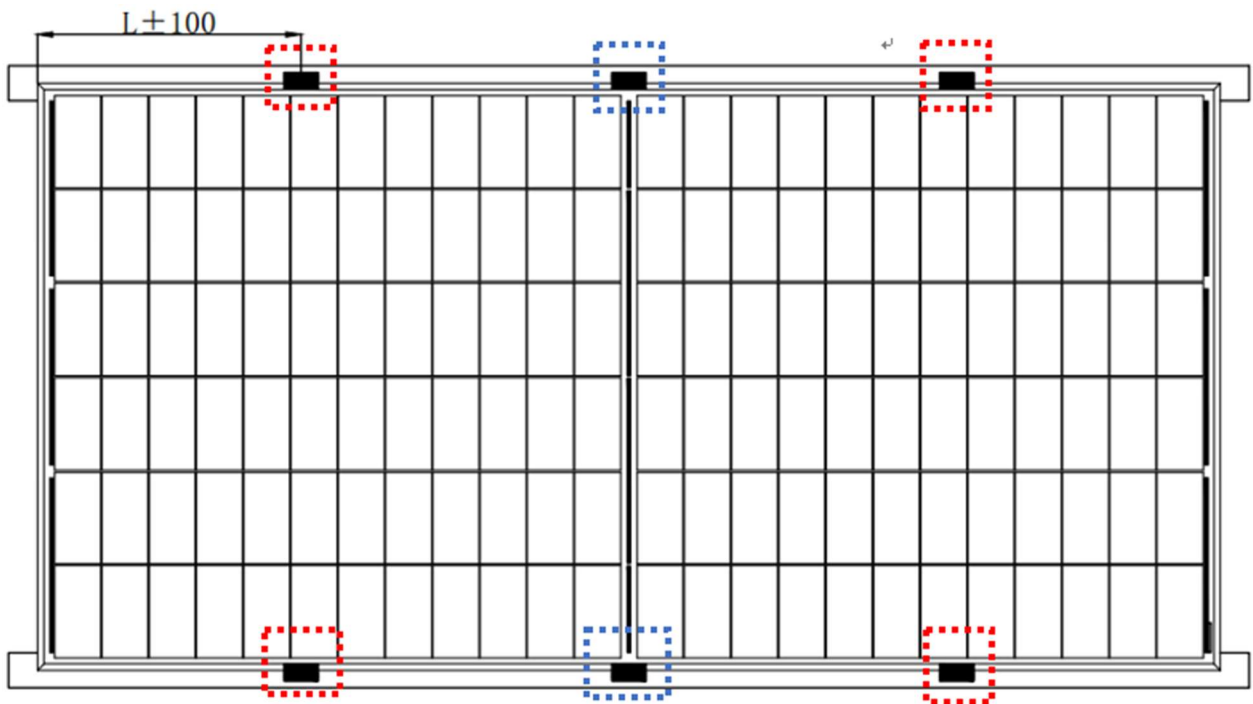
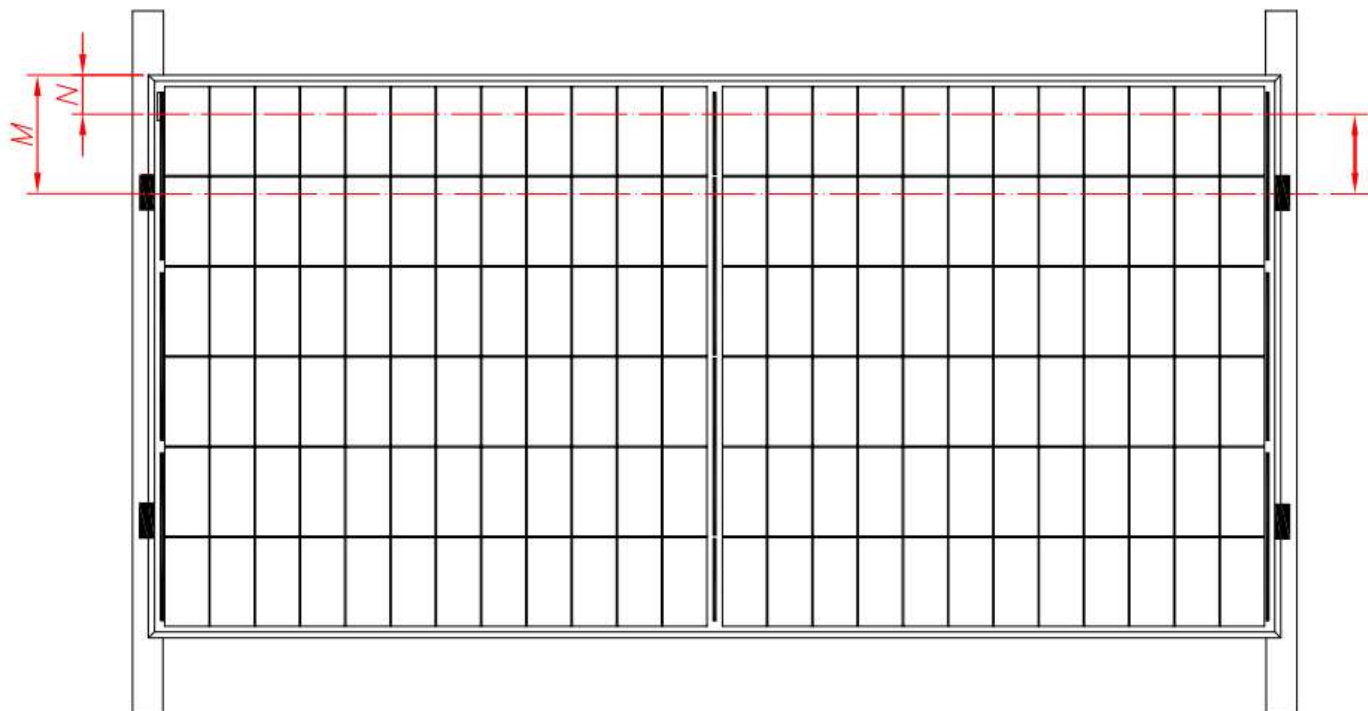

Figure 6
Figure 7
During the installation of bifacial modules, the frame and mounting rack should maintain parallel, as shown in figure 6 and figure 7.
- 2) As for above figure 6, the solid red rectangles indicate primary clamp installation positions and the center positions of long frames where clamps can be added for additional support.
- 3) As for above figure 7, “” indicates the allowable installation range of the aluminum clamp, the recommended installation location is 50~200mm. For this installation, the module's maximum mechanical test load is 1200Pa for positive and negative.
- f) For figure 6 mounting method, the modules must be supported along the length of the edge, and should overlap the array rail by 10mm – 14mm, as shown in figure 10.